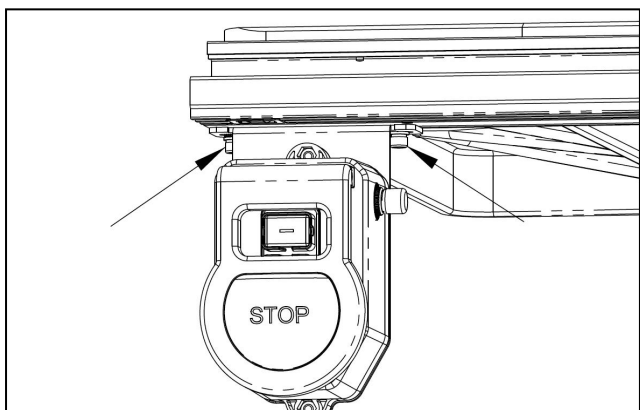

Fig.9
5.4.5 Install the switch (Fig.9)